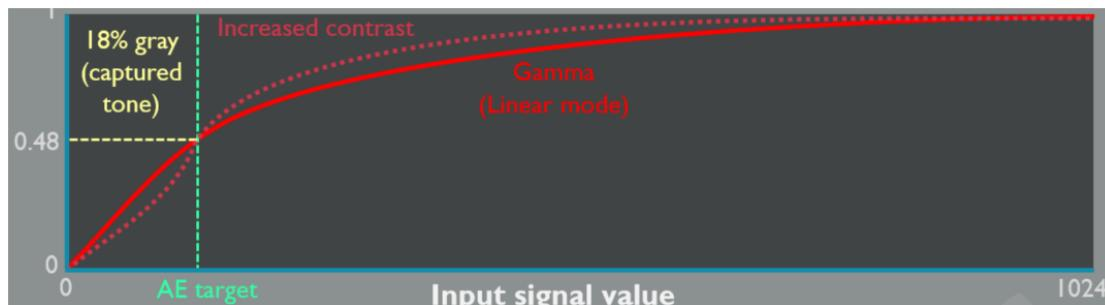

Figure 3.1-4 Correctly tuned AE_LDR_Target and contrast alterations
- Adjust the Gamma curve to S-curve, which can effectively improve the contrast. But in the process of adjusting the Gamma curve, it must be ensured that the curve inflection point (the corresponding coordinate of AE_LDR_Target on the curve) cannot be changed. If the inflection point is changed, the value of AE_LDR_Target needs to be readjusted to ensure the same output value. See Figure 3.1-4 below: